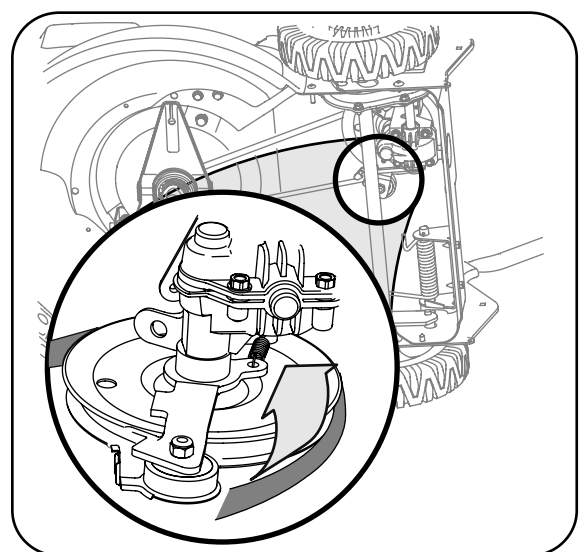

Figure 5-8
8. Slide the belt out from between the belt keeper bracket and the idler pulley. See Figure 5-8.